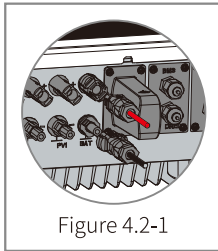

Figure 4.2-1
- **Battery connection:** Confirm the connection between ET and battery : polarities (+/-) are not reversed, refer to figure 4.2-1